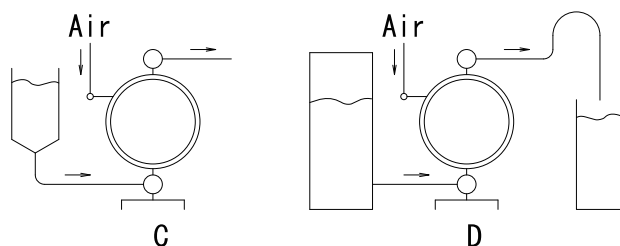

Fig.3.1
- 1) Decide where the pump should be installed and secure a suitable space (see Fig. 3.1 A to D).